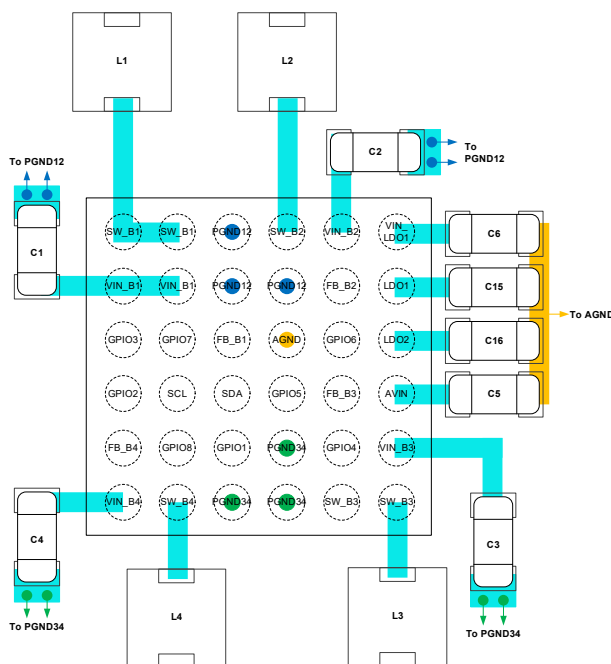

Figure 19. Recommended Layout
8. Figure 19 illustrates the recommended power and signal connections, as well as the routing beneath the IC. For a detailed routing example, refer to the SGM260421 evaluation kit.